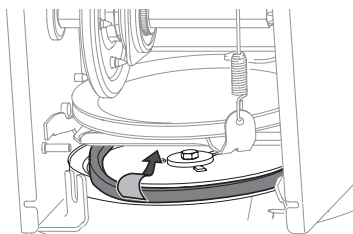

Figure 77
7. Remove belt from around auger pulley, and slip it between support bracket and auger pulley (Figure 77).